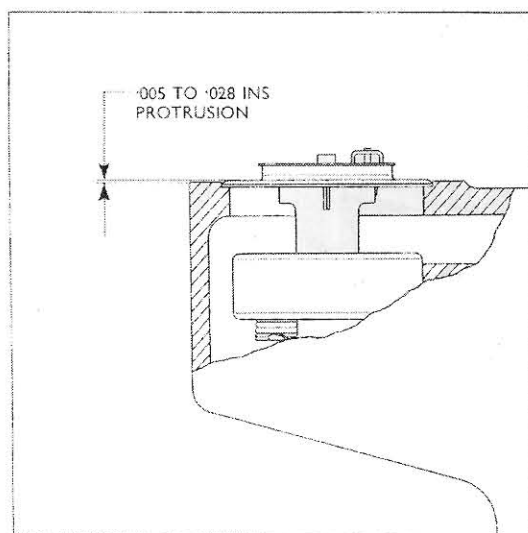

Fig. 31.
61. Fit the thermostat to the cylinder head (see Appendix 6). The current shrouded by-pass type may be used on all Major engines but the previous type must not be fitted to Mk. II and III engines. Check that the thermostat flange protrudes .005 to .028 in. (.13 to .71 mm.) above the cylinder head (see Fig. 31).